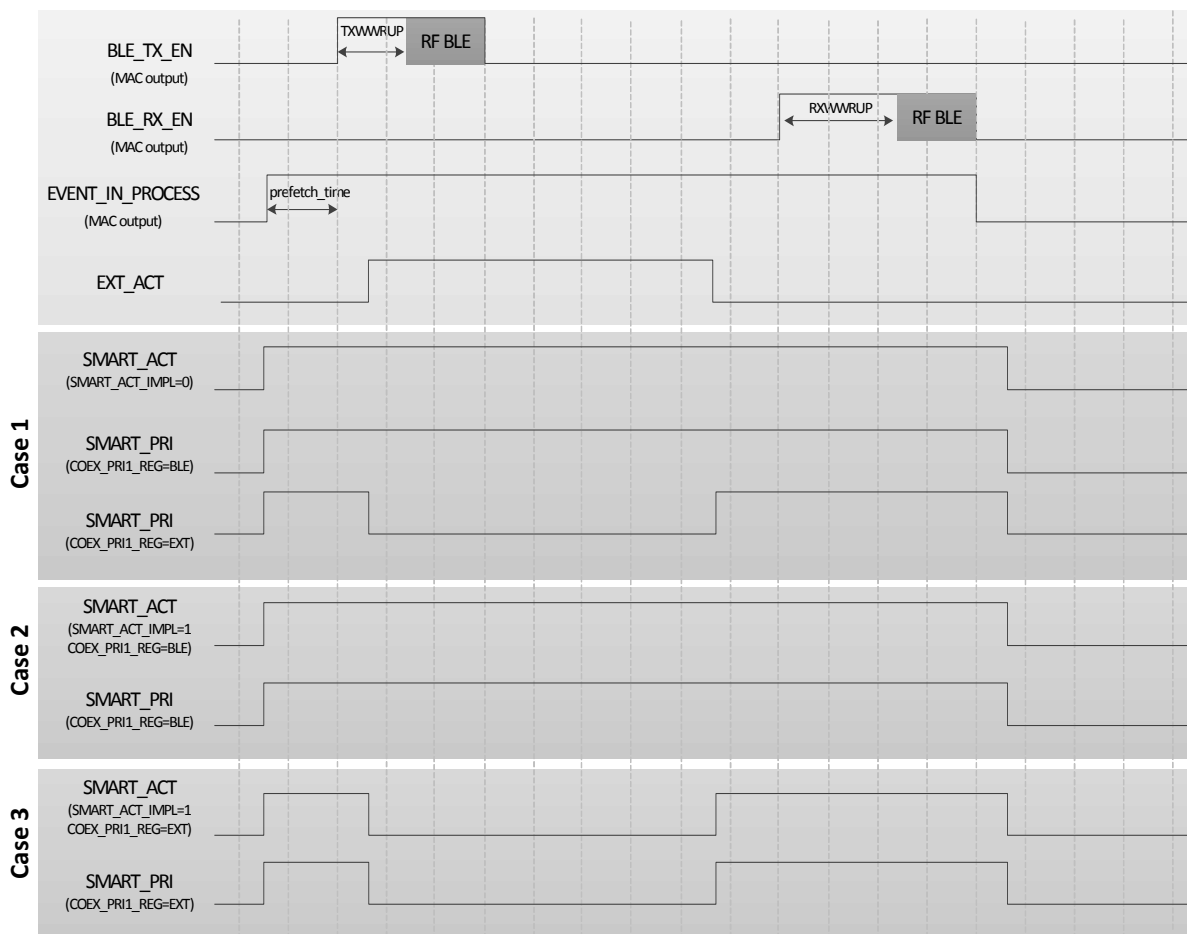

Figure 130: Coexistence signalling cases
2. SMART_ACT: this is an output from the DA14683 and when asserted it designates that the DA14683 is transmitting or receiving hence an external device should be aware of the radio activity. The exact timing of the assertion of this signal is depicted in Figure 130.
An overview of the aforementioned scenarios is presented in Figure 130.